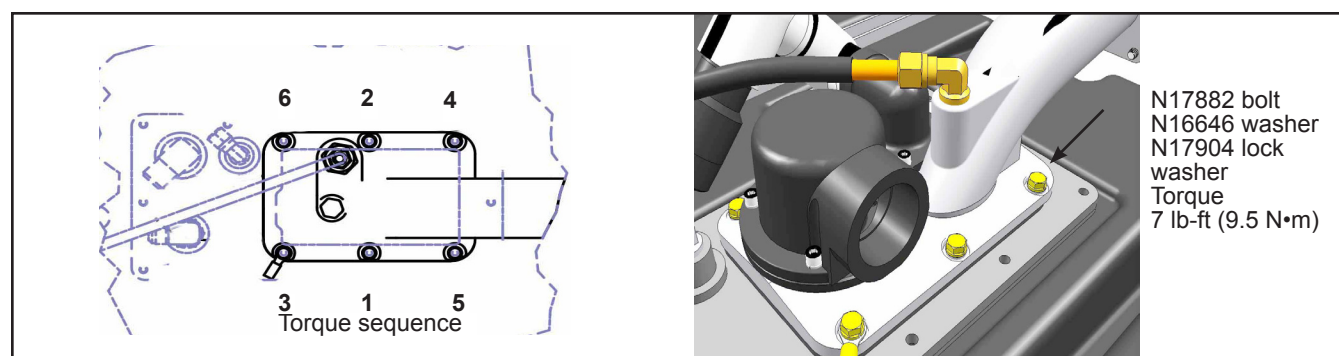

Figure 17 - Filler Neck Installation with New N17882 Bolts
- 1.29. Transfert and install the filler neck with N17882 bolts, N16646 flat washer and N17904 lock washer. See Figure 17 for the installation and torque sequence.